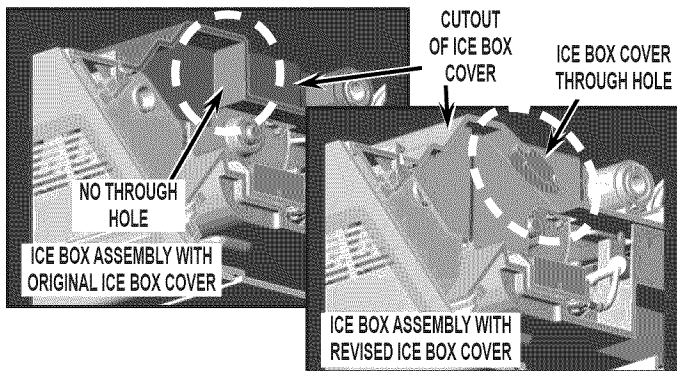

FIGURE 15
**NOTE:** Skip ahead to step 23 if your ice box assembly had a revised ice box cover with through hole (fascia heater and grommet). See *Figure 15*.